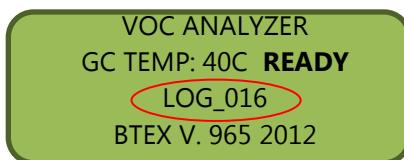

Figure 4.7-1: FROG-4000TM display screen at the beginning of a sample run.
4. The computer screen now displays a list of sequential files named “LOG\_XXX”. The file names are created and assigned by the instrument. They appear on the instrument screen at the *beginning* of each analysis cycle as shown in Figure 4.7-1.